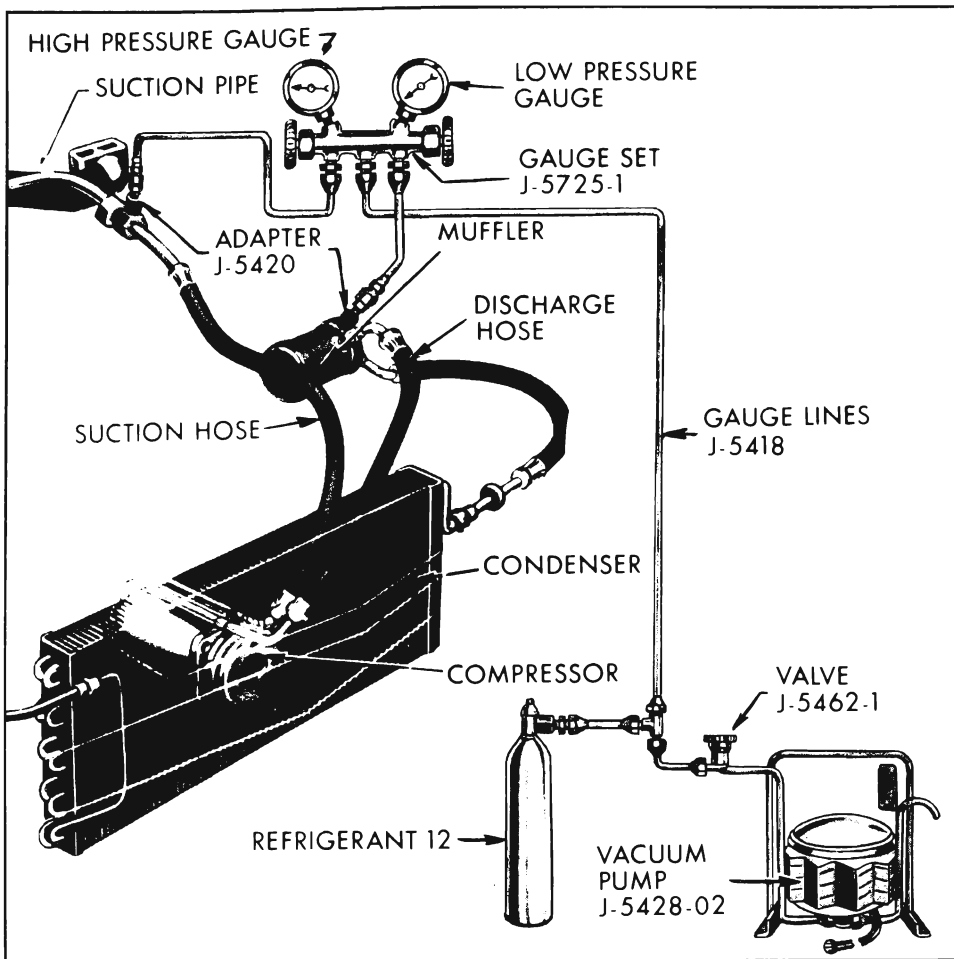
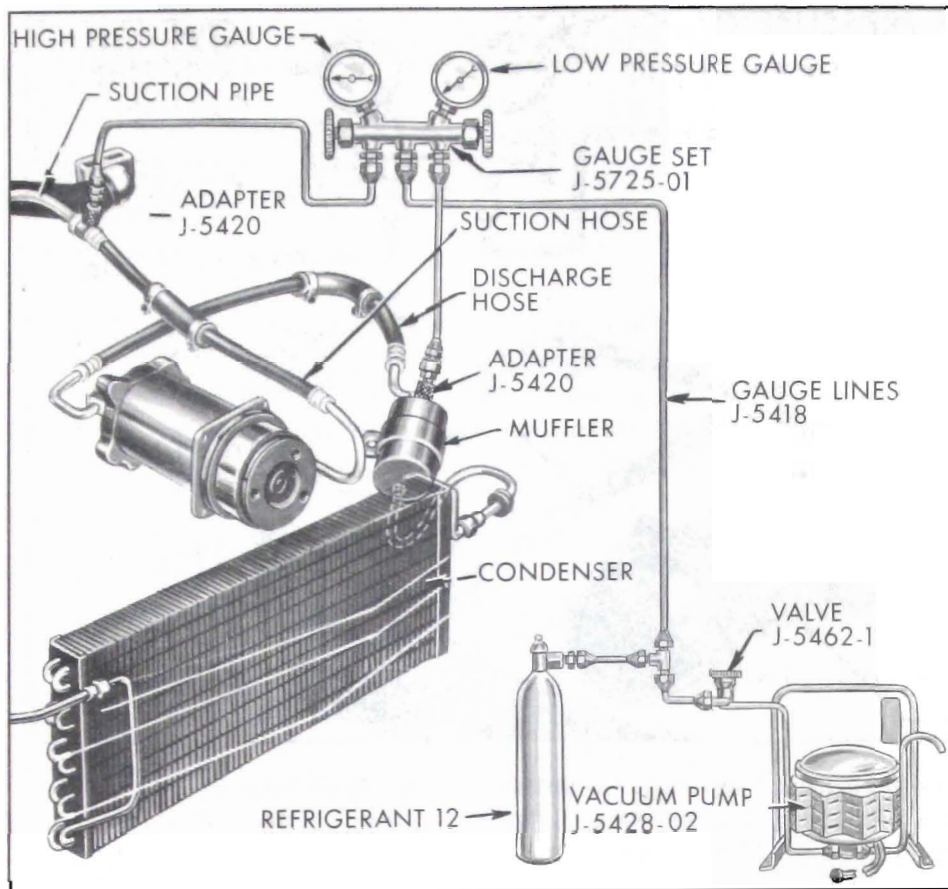

Figure 11-106—Service Hook-Up For Charging Air Conditioner - V-8 Engine Installation
Figure 11-107—Service Hook-Up For Charging Air Conditioner - V-6 Engine Installation
1. Attach gauge lines, adapters and vacuum pump set-up as shown in Figure 11-106 for V-8 engine installation or Figure 11-107 for V-6 engine installation. Discharge any refrigerant that may be in system.
1. With the vacuum pump, refrigerant-12 cylinder and gauge set connected to the compressor as shown in Figure 11-106 or 11-107, place the cylinder in a bucket of hot water which does not exceed  $125^{\circ}\text{F}$ .